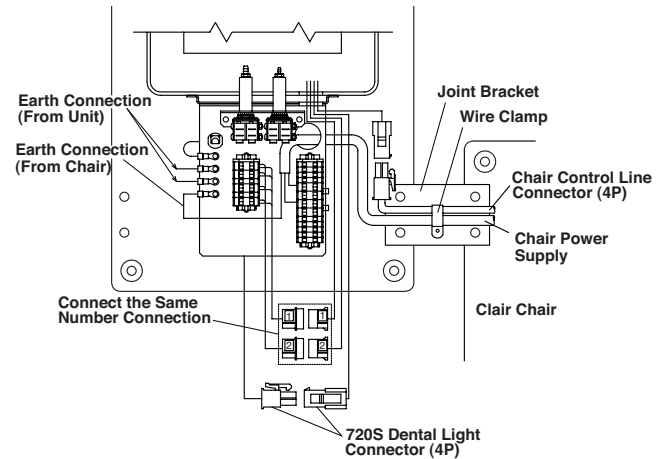
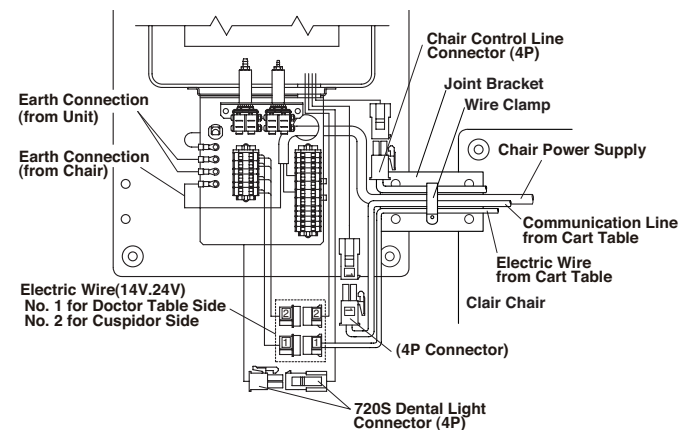
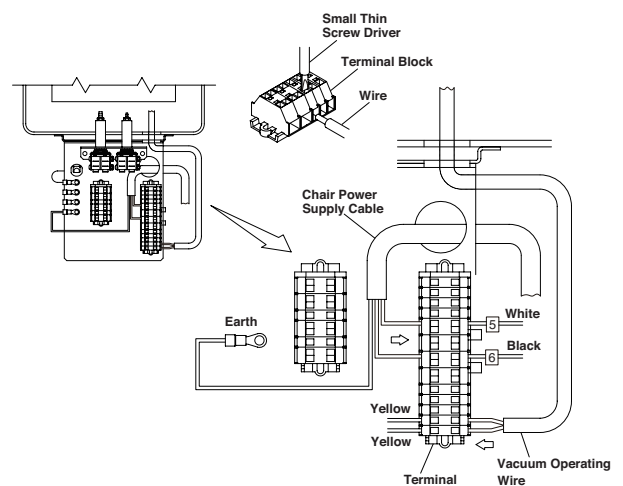

Fig.5-10A Wires Connection for Over the Patient Type
Fig.5-10B Wires Connection for Cart Type
Fig.5-10C Wires Connection
B.Chair Control Connector (4P) (Fig.5-10A/ Fig.5-10B)
C.Chair Power Supply (Fig.5-10A / Fig.5-10C Fig.5-10B)
(Refer to Fig.5-10A / Fig.5-10B)
E. Communication Line from Cart Table (Fig.5-10B)
F.Fix the earth line (Fig.5-10A / Fig.5-10B)
Fix the all wire to the joint bracket with wire clamp.(Chair control line, Chair power supply line) (Fig.5-10A / Fig.5-10B)
Connect the central vacuum operating wires to terminal No.1 and No. 2. (Yellow wires are connecting.) (Fig.5-10B)
Note : How to connect terminal block (Fig.5-10B)